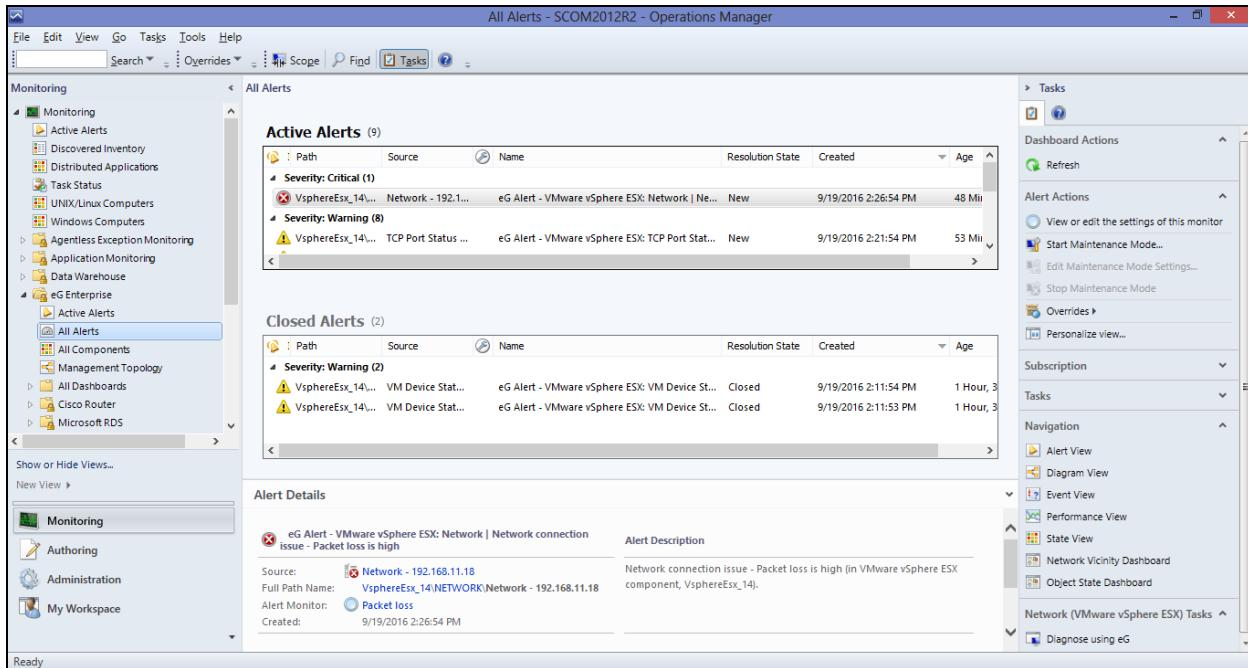

Figure 3.7: The All Alerts view
2. The right dashboard panel will then display all alerts that were raised on the eG-managed components (see Figure 3.7). Here again, the alerts will be grouped by severity. Also, like in the **Active Alerts** view, each alert in the **All Alerts** view will display the alert **Path**, **Source**, **Name**, **Resolution State**, **Created** date/time, and **Age**, by default. If one/more problems were resolved, then the **Resolution State** of such alerts will be **Closed**. **Closed Alerts** will be displayed in a separate section in the alerts view. The **Closed Alerts** section will display alerts on the basis of the following criteria: "*View all alerts with Closed(255) resolution state*". New alerts will be displayed on the basis of the following criteria: "*View all alerts with New(0) resolution state*"..